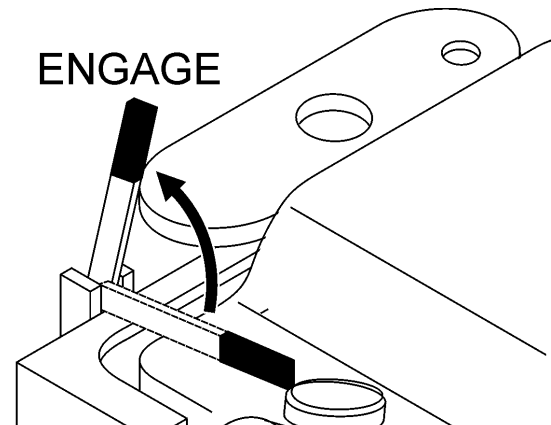

Figure 51. Transmission Lever (Engaged Position)
3. Move the transmission engage/disengage lever to the **ENGAGE** position to observe the proper spline-to-rear wheel contact (Figure 51).